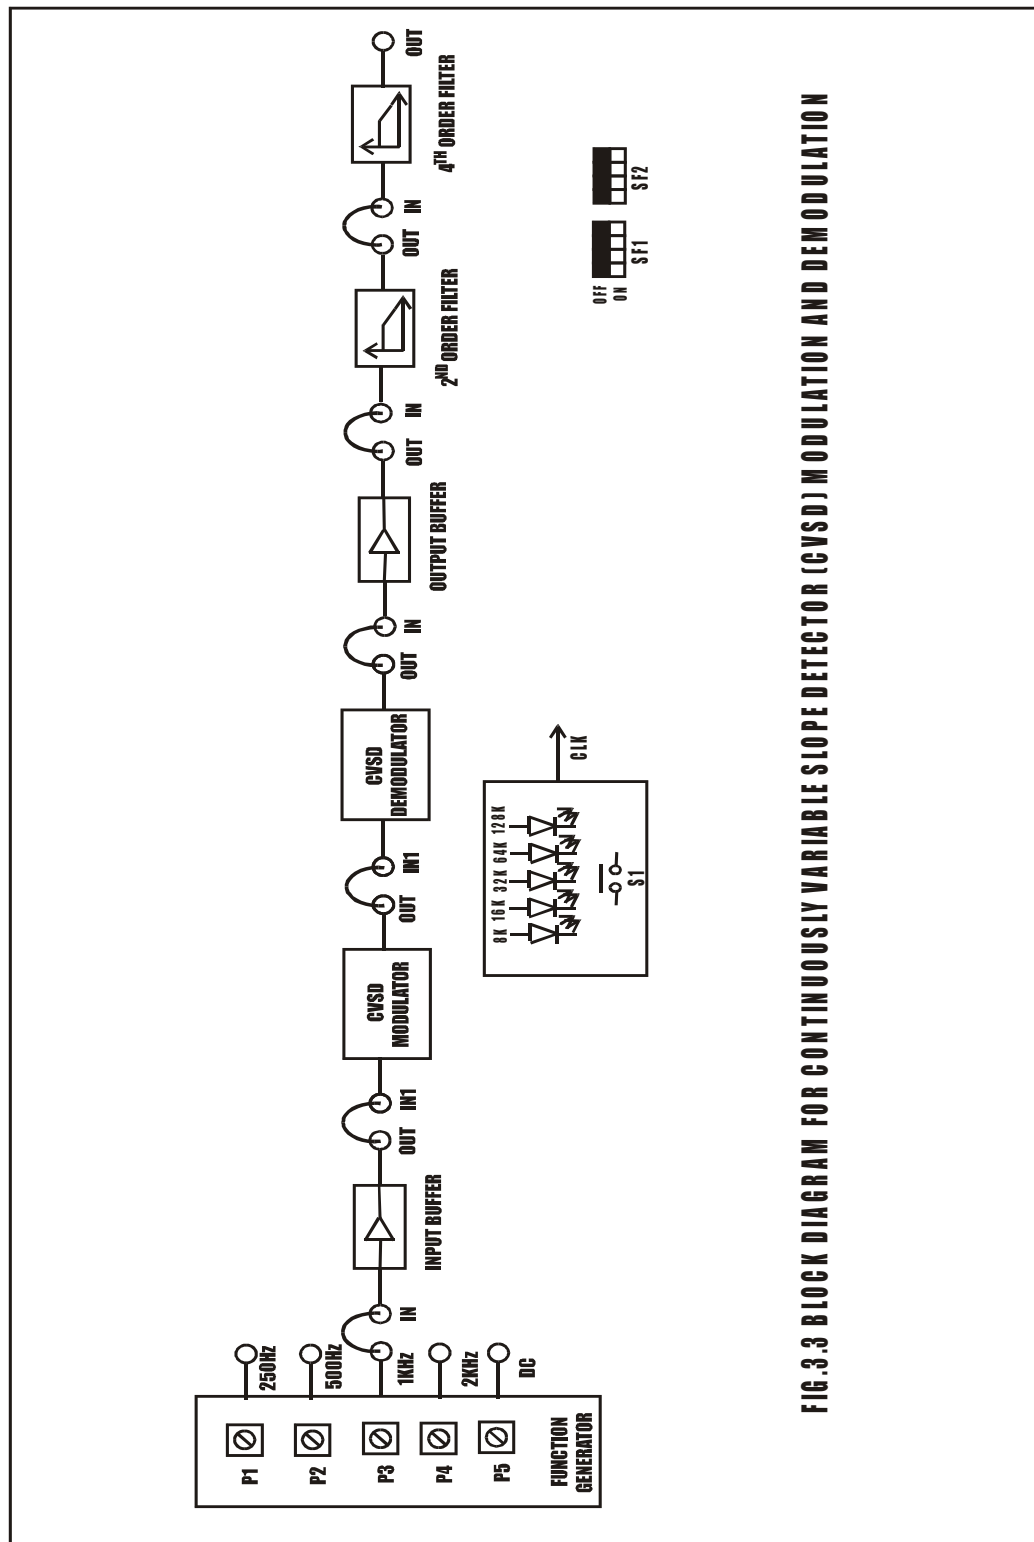

FIG.3.3 BLOCK DIAGRAM FOR CONTINUOUSLY VARIABLE SLOPE DETECTOR (CVSD) MODULATION AND DEMODULATION
- Refer to the block diagram (Fig. 3.3) and carry out the following connections.